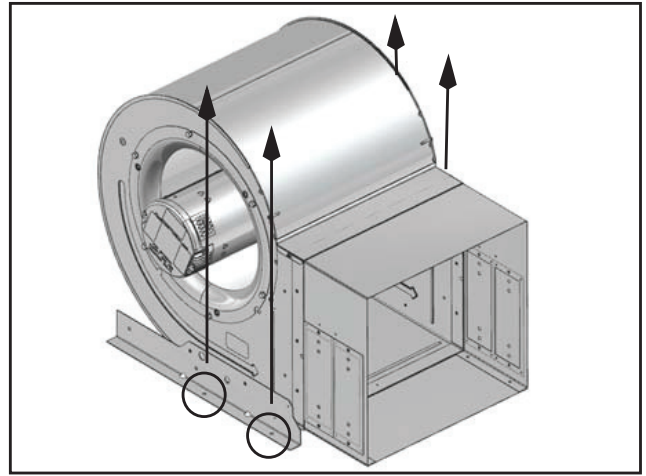

Fig. 30 - Screws Holding Blower Assembly
4. Loosen blower assembly by removing (4) screws. See Fig. 30.